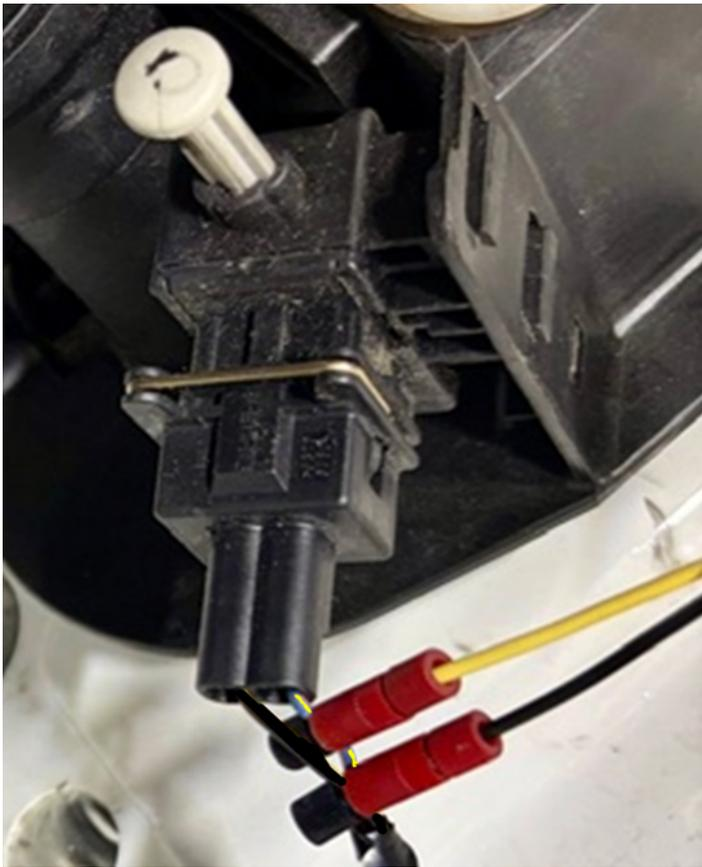

Figure 1
1. Connect AUTO-BLiP **Black** wire to the **Black** wire on the clutch Safety Interlock switch (Fig 1). **Alternate placement at OBD2 port, pin #4 (Fig 4). Can also be attached to bolt on chasis in the left side of footwell**
2. Connect AUTO-BLiP **Yellow** wire to the **Blue/Yellow** wire on the clutch Safety Interlock switch (Fig 1).